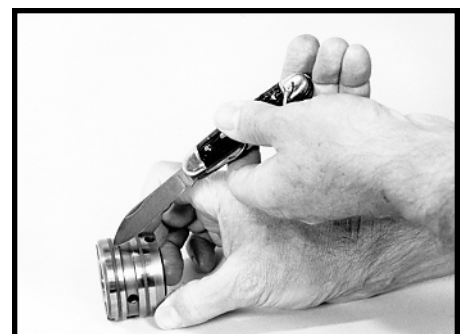

Figure 63
- 25. Remove and discard the two Teflon seal rings (13) from the valve sleeve (15). SEE FIGURE 63.